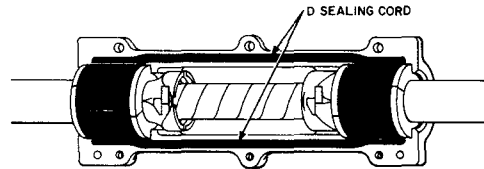

Fig. 17—D Sealing Cord Placed in Groove
4.08 Thoroughly clean the sealing surface of each splice case with a clean, dry, lint-free KS-14666 cloth moistened with a small quantity of B cleaning fluid. This will ensure the removal of any oil, grease, dirt, filings, moisture, desiccant, etc. Place the sealing cord in the side grooves, being careful to avoid making flat spots or dents in the cord. **Do not stretch.** It may be necessary to push the B sealing tape away from the grooves at the ends in order to permit placing the sealing cord (Fig. 17).⚡